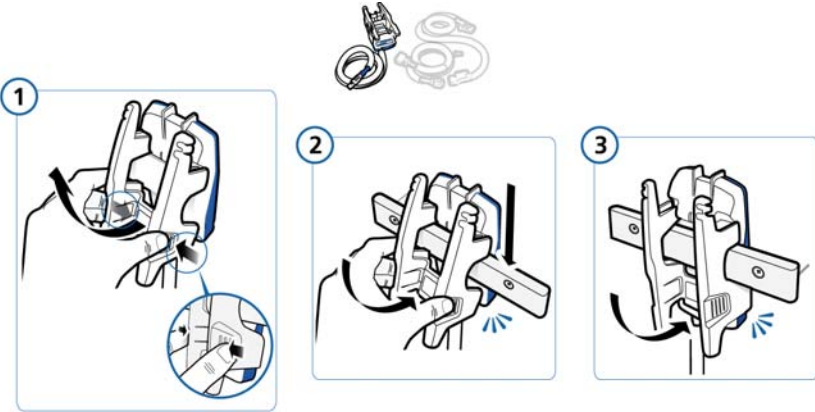

Figure J-10. Attaching the adapter to a rail
- Attach the adapter to a rail (Figure J-10)